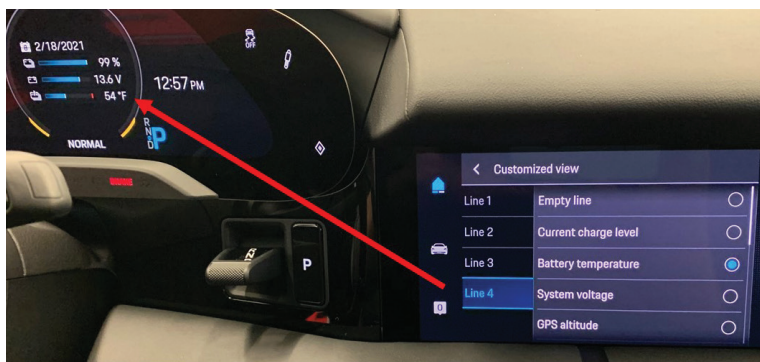

Figure 5
- Underwriter Laboratory (UL) requirements define ground fault and residual current detection capabilities for Electric Vehicle Supply Equipment (EVSE). The charge control unit is extremely sensitive to ground faults in the supply infrastructure.
- Receptacles from the supplier Hubbell are recommended for their industrial quality and ability to handle high current for long periods of time (Figure 5)